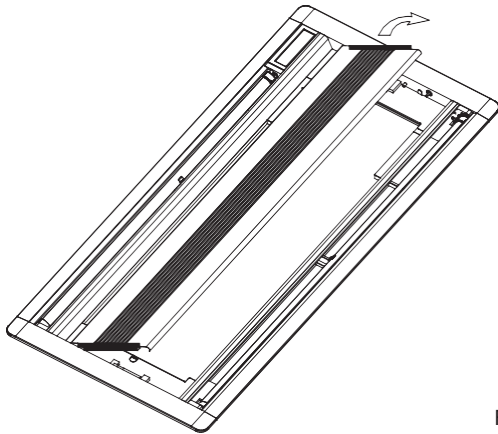

Fig.5-13
- a. The air-in side should face up when using a vacuum cleaner. (Refer to Fig.5-13)